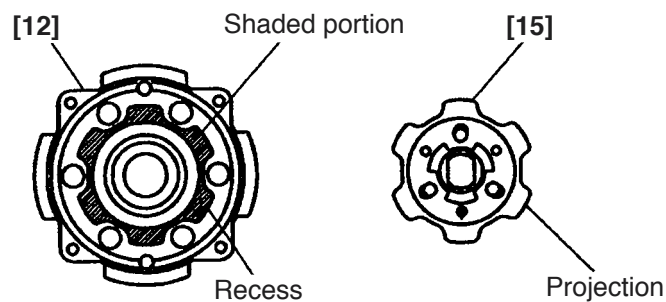

Fig. 9
- ① Apply grease approx. 1.2 g (Hitachi Motor Grease No. 29) to the shaded portion in the Front Case [12] (See Fig. 9).
- ② When installing the Lock Ring [15] into the Front Case [12], assemble so that the projections on the Lock Ring [15] engage with the recesses in the Front Case [12]. Make sure that the flat plane of Lock Ring [15] faces the Front Case [12] (see Fig. 9).